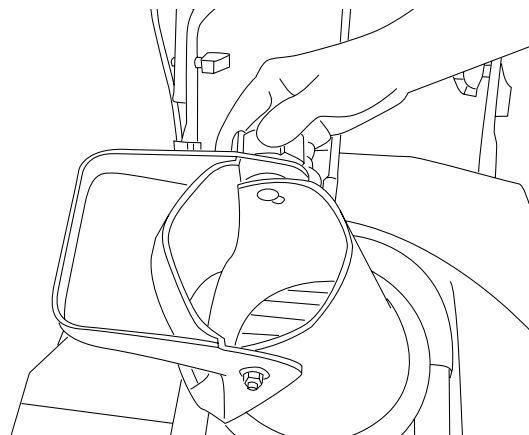

Figure 5
1. Loosen the knob to lift the chute deflector (Fig. 5).